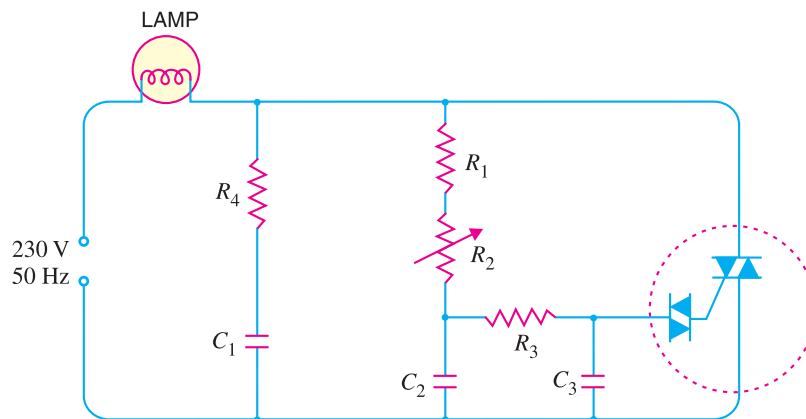
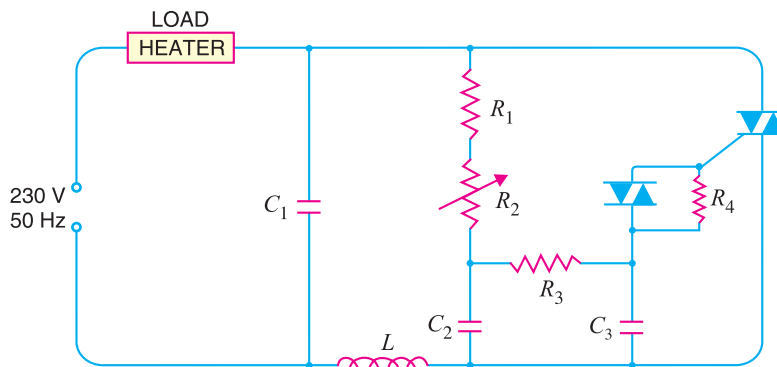

Fig. 21.19
Fig. 21.21
**(i) Lamp dimmer.** Fig. 21.19 shows a typical circuit that may be used for smooth control of a.c. power fed to a lamp. This permits to control the light output from the lamp. The basic control is by an  $RC$  variable gate voltage arrangement. The series  $R_4 - C_1$  circuit across the triac is designed to limit the rate of voltage rise across the device during switch off.
**(ii) Heat control.** Fig. 21.21 shows a typical diac-triac circuit that may be used for the smooth control of a.c. power in a heater. This is similar to the circuit shown in Fig. 21.19. The capacitor  $C_1$  in series with choke  $L$  across the triac helps to slow-up the voltage rise across the device during switch-off. The resistor  $R_4$  in parallel with the diac ensures smooth control at all positions of variable resistance  $R_2$ .